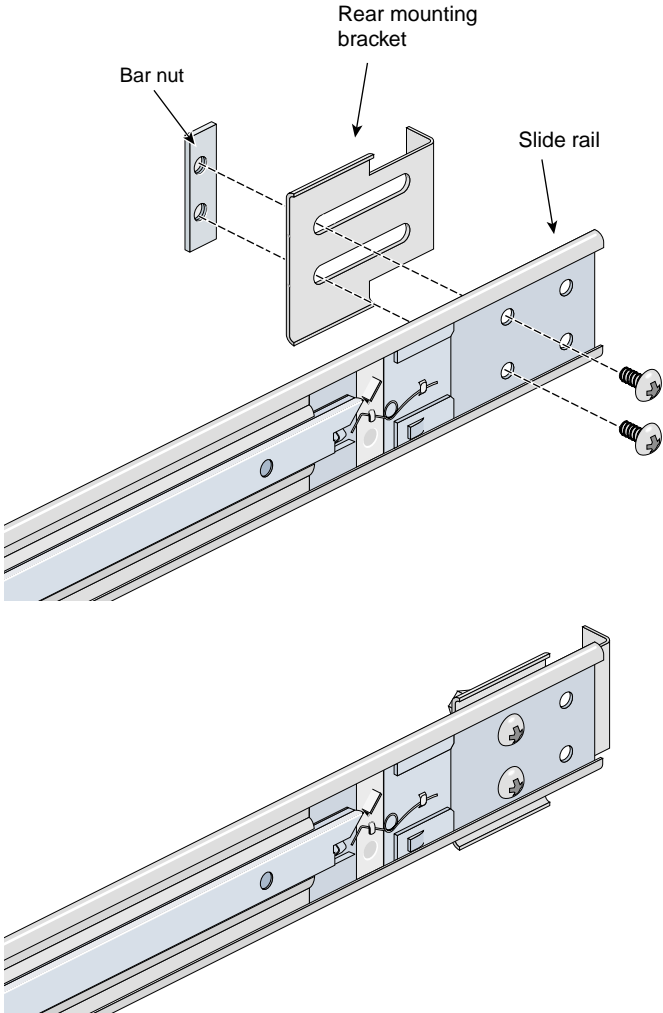

Figure B-2 Attaching the Rear Mounting Bracket to the Slide Rail
4. Place one of the mounting brackets on the back of the slide rail as shown in Figure B-2. Adjust the position of the mounting bracket on the slide rail according to the depth of the rack.
5. Place a bar nut next to the mounting bracket. Secure the mounting bracket to the slide rail by inserting two 10-32 x 1/2-inch screws through the assembly and into the bar nut as shown in Figure B-2.